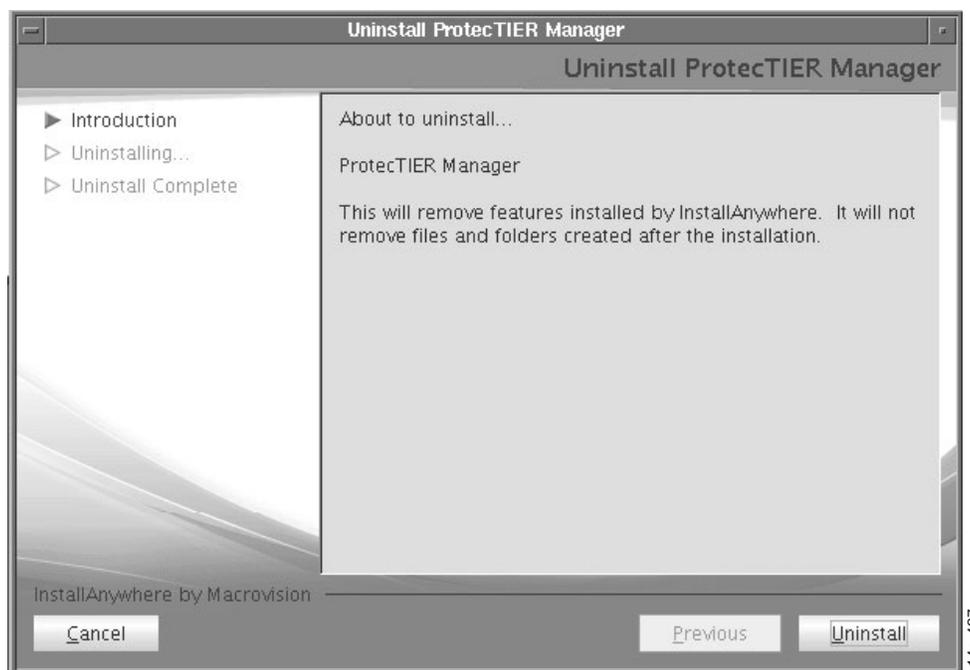

Figure 98. Uninstall ProtecTIER Manager Window
4. The uninstall program will launch and you will see the Uninstall ProtecTIER Manager window shown in Figure 98. Click **Uninstall**.